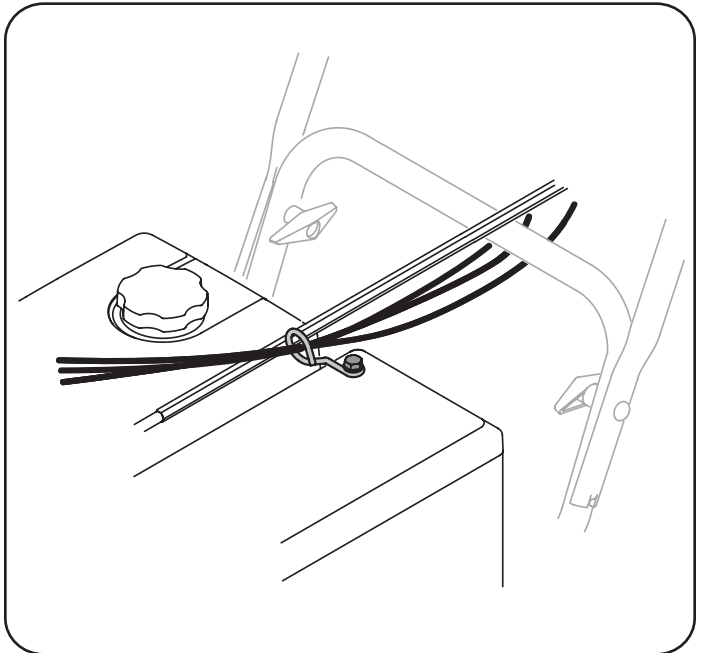

Figure 10
15. Check that all cables are properly routed through cable guide on top of engine. See Figure 10.